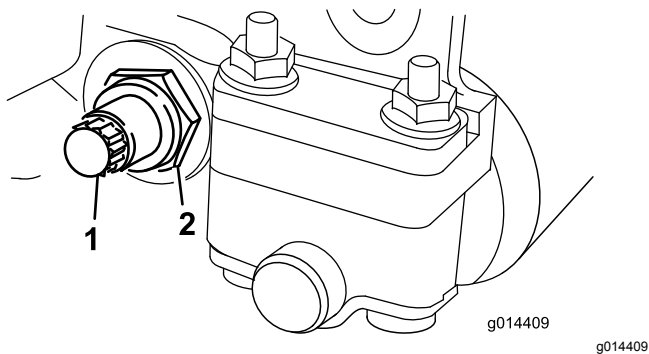

Figure 14
3. On each side of the machine, loosen the locknut securing the bedbar bolt (Figure 14).
4. Remove each bedbar bolt allowing the bedbar to be pulled downward and removed from the cutting unit (Figure 14).